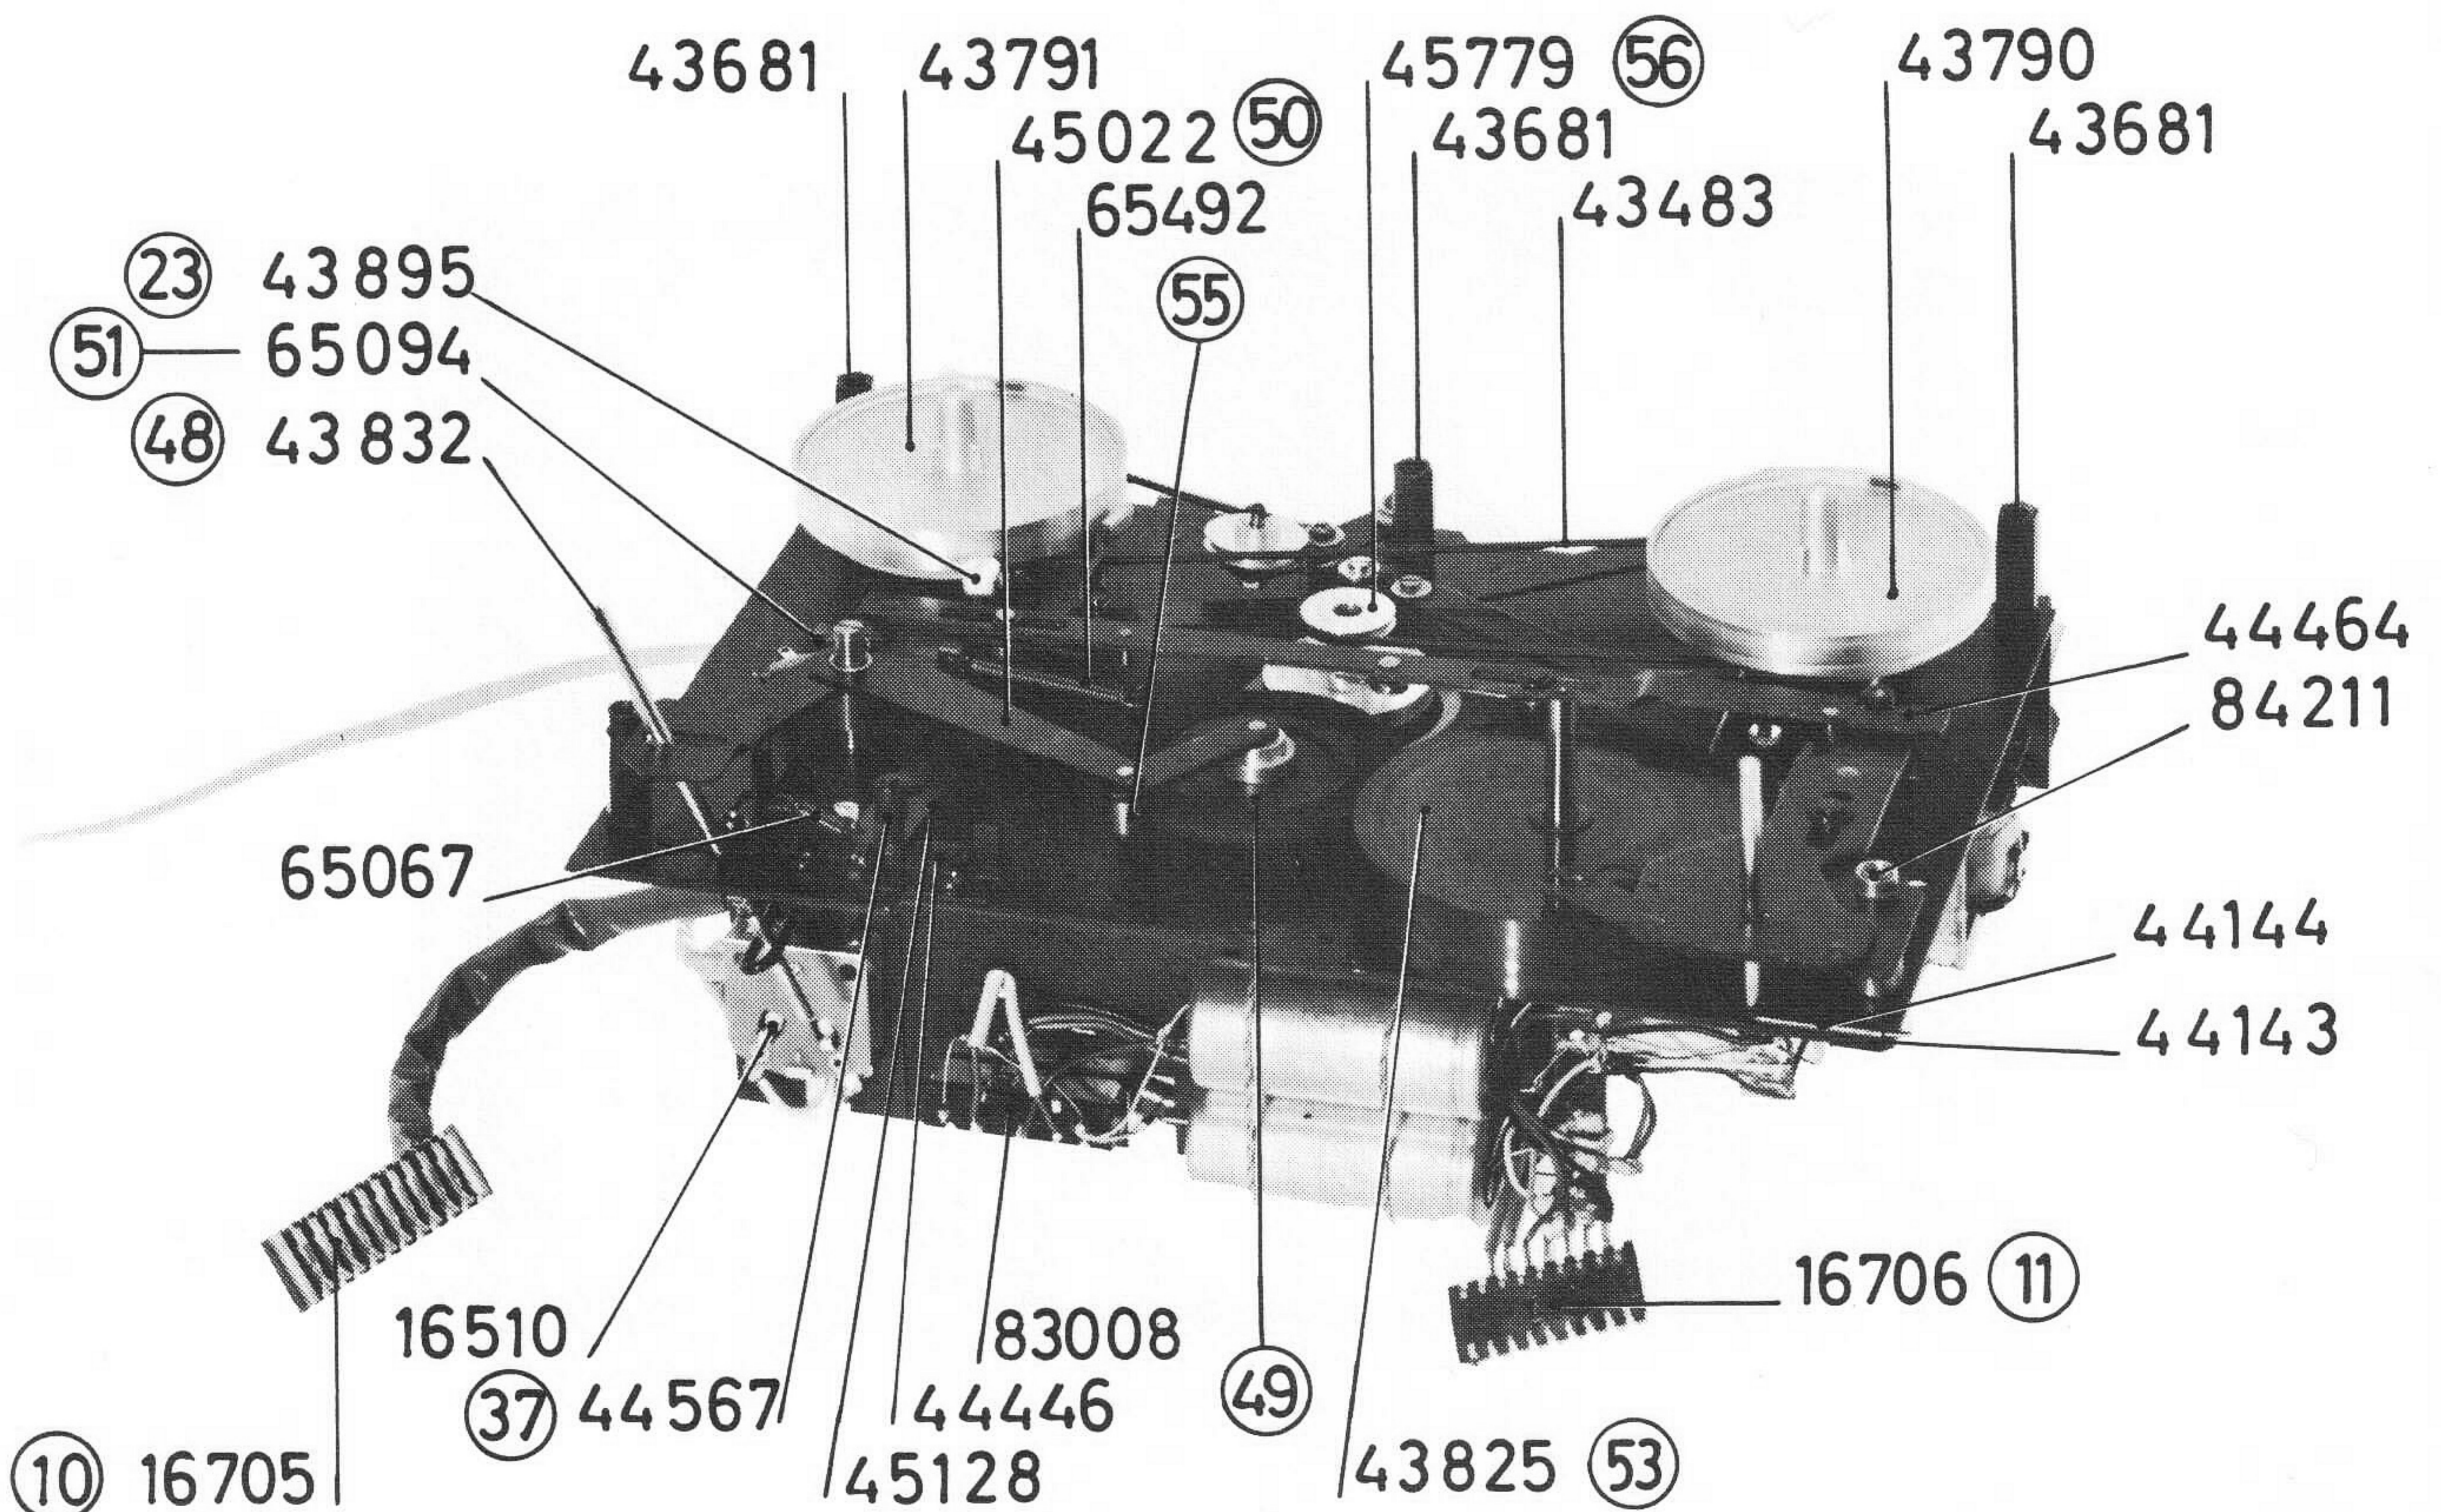

Fig. 4
8. BORTTAG ANSLUTNINGSKONTAKTERNA (10 & 11) TILL FÖRSTÄRKAREN. SE FIG. 4.
JUSTERING: FÖR STARTSPAKEN (14) TILL LÄGET MÄRKT MED EN PIL, SAMT MANÖVERSPAKEN (36) TILL STOPPLÄGE 1. I DETTA LÄGE SKALL ETT AVSTÅND AV 0,2 - 0,5 MM FINNAS MELLAN TRYCKRULLEN OCH KAPSTANAXELN. DETTA AVSTÅND KAN ÖKAS ELLER MINSKAS GENOM VRIDNING AV DEN NEDRE 6-KANTIGA DELEN AV DEN EXCENTRISKA LAGERTAPPEN (37). SE FIG. 4.
MED SPAKEN FÖR HASTINGHETSOMSTÄLLNING (48) I LÄGE 7 1/2" KONTROLLERAS ATT MELLANHJULET (49) LIGGER PARALLELLT MED MONTERINGSPLÅTEN SAMT ATT MELLANHJULETS LAGERTAPP LIGGER PÅ ETT AVSTÅND AV 0,3 - 0,7 MM FRÅN MONTERINGSPLÅTEN. VID BEHOV BOCKAS DEN LÅNGA MANÖVERARMEN (50) UPP ELLER NED. KONTROLLERA ÄVEN MED SPAKEN (48) I SAMTLIGA TRE LÄGEN ATT ETT MINDRE SPEL FINNES MELLAN SPAKEN OCH MELLANHJULETS MANÖVERARM. DETTA SPEL KAN JUSTERAS I GENOM BOCKNING AV MANÖVERARMEN (50). MAX. SPEL 1 MM, MIN. SPEL 0,5 MM. SE FIG. 4.
FJÄDERN (51) FÖR MELLANHJULETS (49) TRYCK MOTDRIVRULLE (56) OCH SVÄNGHJUL (53) SPÄNNES SÅ MYCKET ATT ETT TRYCK AV 75 - 80 GRAM ERHÅLLES. MÄTES MED FJÄDERVÅG VID MELLANHJULSLÄNKENS (54) LAGERBUSSNING (55). VÅGEN FÖRES LÅNGSAMT IN OCH AVLÄSES I DET ÖGONBLICK DÅ MELLANHJULET BEFINNER SIG NÅGON MILLIMETER FRÅN DRIVRULLENS (56) STÖRSTA DRIVDIAMETER. (MANÖVERSPAK (48) SKALL STÅ I LÄGE 7 1/2"). SE FIG. 4.